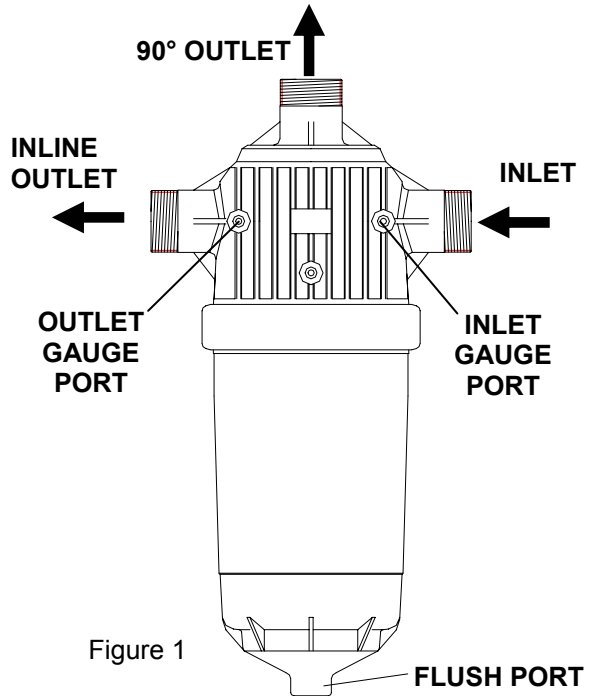

Figure 1
1. Your Helix Filter is equipped with (1) inlet and (2) outlet connections. Choose either the In-Line outlet or the 90 degree configuration and terminate the outlet port not being used with the supplied pipe cap. **The preferred orientation of installing the Helix Filter is with the flush port pointing downward (fig. 1); however, the filter can also be installed with the 3/4" connection pointing upward.**